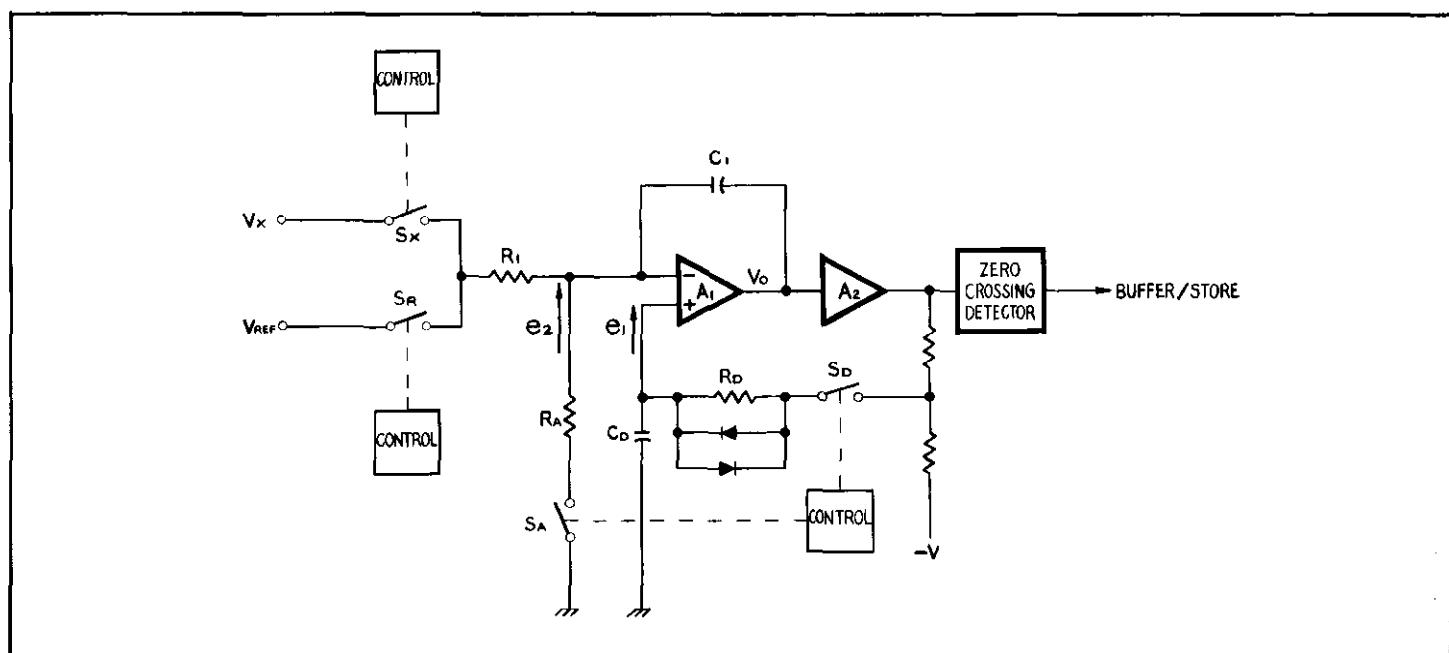

FIGURE 19. Integrator Block Diagram.
d). Integrator. The operation of the Integrator is controlled by switches identified as S_A, S_D, S_X, and S_R as shown in Figure 19. Switch S_X (Sampling Switch) is composed of Q302. Switch S_D (Zeroing Switch) is composed of transistors Q305 and Q315. Transistors Q306, Q307 are control circuits arranged to control the proper FET switches depending on the event commands. The integrator amplifier consists of two stages: gain of 20 and gain of 50. They are QA302 and QA303. The integrator capacitor is C312 (.1 μ fd). Switches Q308 and Q310 control the discharge current period. The feedback rezeroing of the Integrator circuit is performed by FET Q315 (Switch S_D). Resistor R351 and capacitor C317 provide filtering in the feedback loop. Diodes D312 and D313 provide fast response for large input offsets (especially due to input overloads).